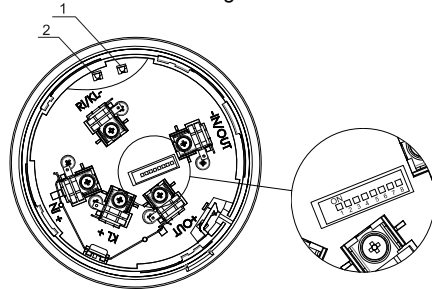

Fig.3
- RED (alarm status) indication – 1 red LED situated on the front side of the sounder (fig.3, position1);
- YELLOW (fault status) indication situated – 1 yellow LED situated on the front side of the sounder (fig.3, position 2);
3. Program the optional parameters of the beacon sounder using the 8-pin micro-switches (fig.3):